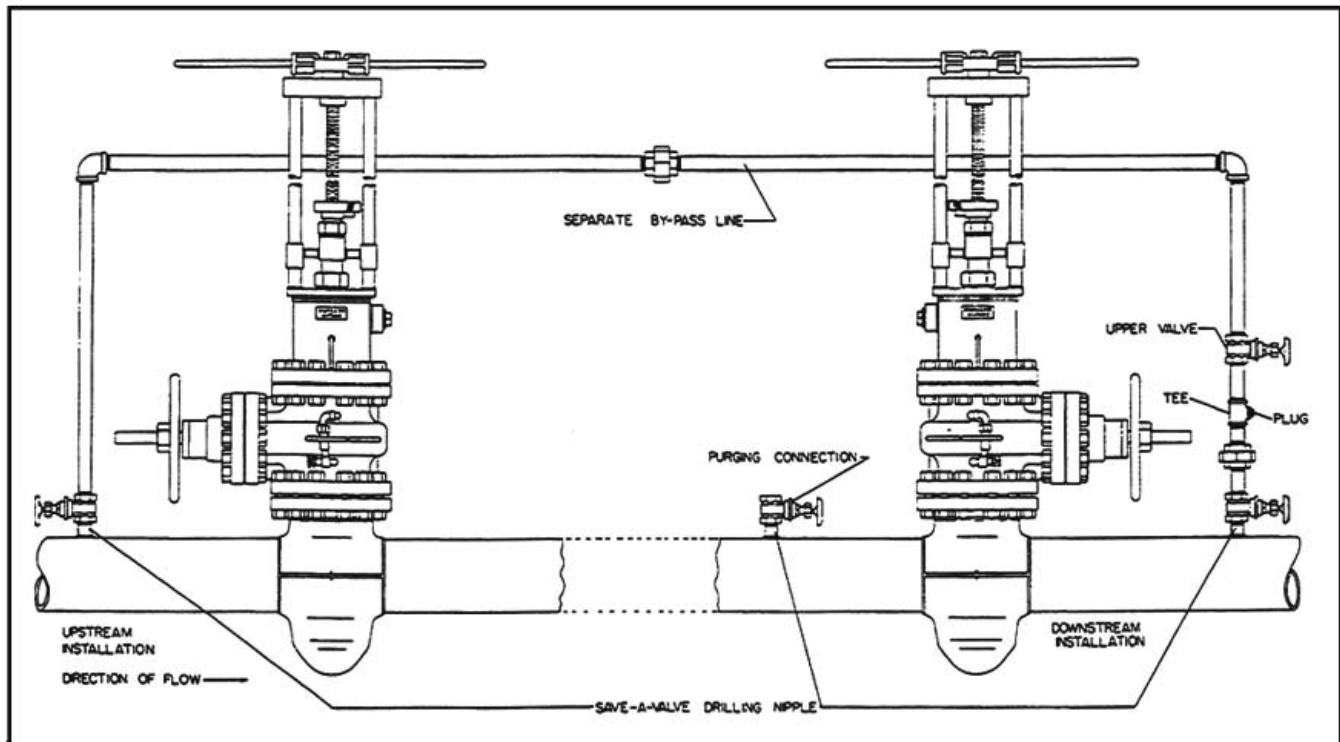

FIGURE 13
3. See **Figure 13** when using two stopping machines to isolate a section of pipe and using a separate by-pass line to maintain service.
2. If separate by-pass line is being used (Figure 13) the air is purged from the by-pass line by: